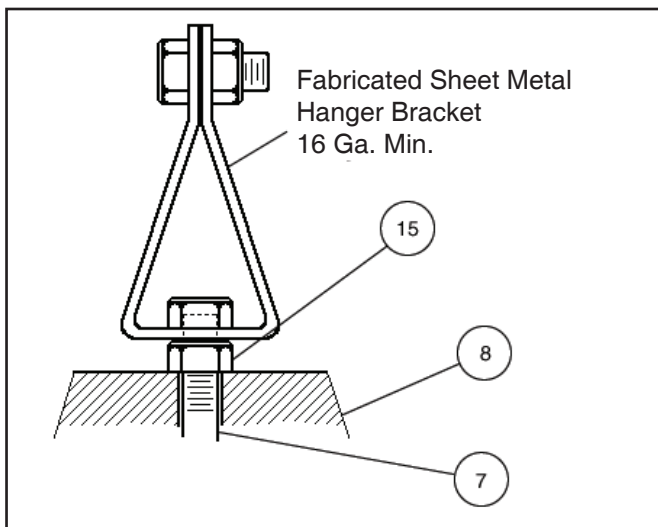

FIGURE 3
NOTE: For the 1" and 1-1/2" main valve (MV) body sizes, fabricate a hanger bracket with sheet metal similar to Figure 3 below.